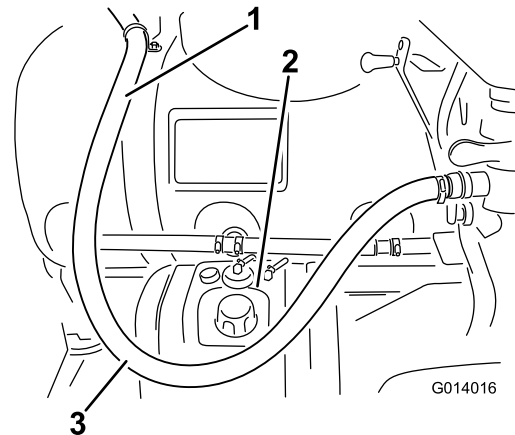

Figure 25
3. Review the hose arrangement. Make sure it lays with enough slack as shown in Figure 25 to allow for the eductor to be lowered.